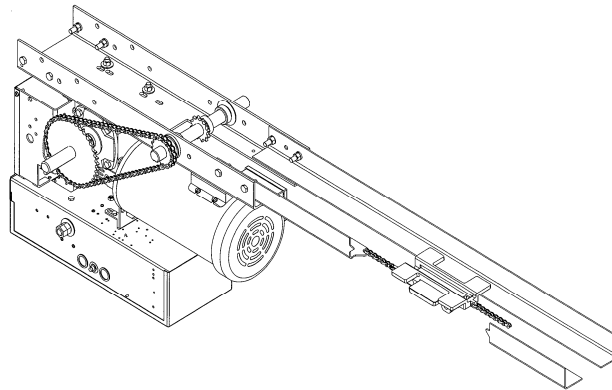

Figure 4 Inserting carriage in tracks
2. Place carriage on rails and slide to forward position, making sure that the chain take-up bolt is facing the operator (Figure 4).